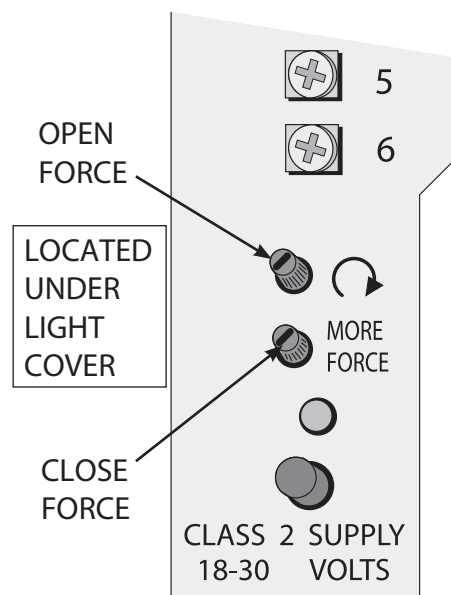

Figure 9 Making Force Adjustments
- On front panel of Power Head find adjusting screw marked "CLOSE" (**Figure 9**).
- On front panel of Power Head find adjusting screw marked "OPEN" (**Figure 9**).
- If door does not reverse, decrease Close Force until door reverses (**Figure 9**).